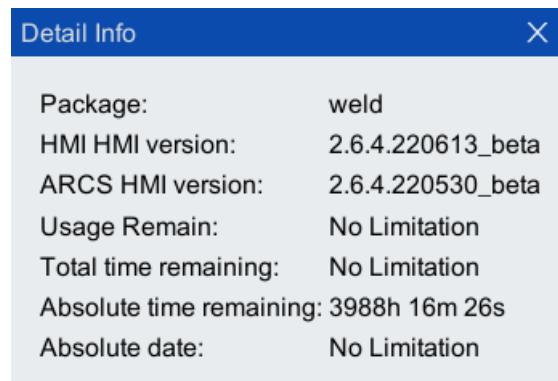

Figure 4-16 "View Details" interface
Step3. Click "See details" to view the details about the feature pack, as shown in Figure 4-16.